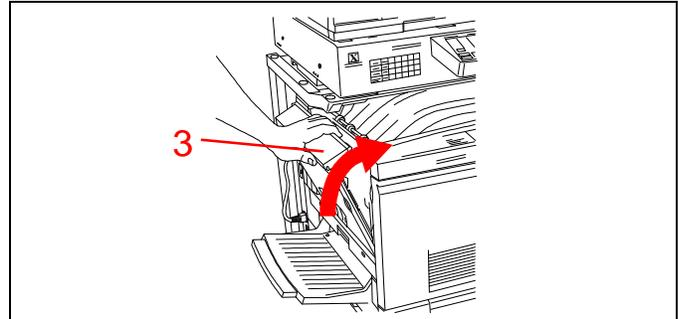

Figure 28
3. See Figure 28. Close the top left cover.